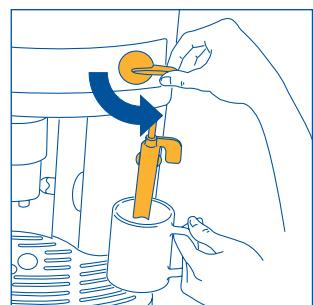
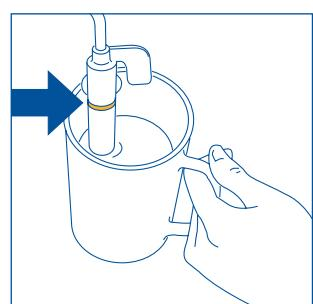

Fig.23
Fig.24
- Dip the cappuccino frother into the container with milk (fig. 23), taking care not to immerse the raised line on the cappuccino frother (indicated by the arrow in fig. 24). Turn the steam knob a half turn counter-clockwise as far as it will go (take care to avoid scalds). Steam is discharged from the cappuccino maker, giving the milk a creamy frothy appearance. To obtain a creamier froth, dip the cappuccino frother into the milk and rotate the container with slow movements from the bottom upwards. (You should not discharge steam for more than two minutes at a time).